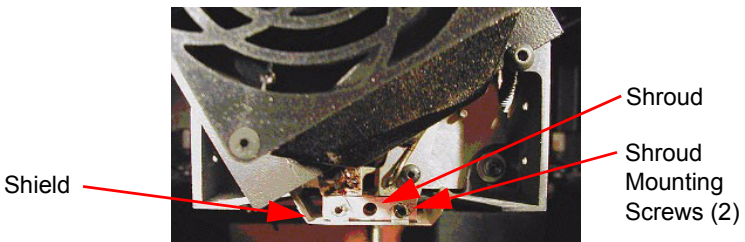

Figure 17: Shroud and shield location
- Locate the shroud, the shroud-mounting screws, and shield, as shown in Figure 17.